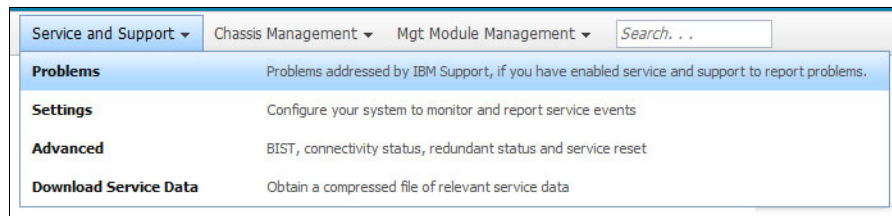

Figure 7-9 CMM Service and Support drop-down menu
- Service and Support, shown in Figure 7-9.